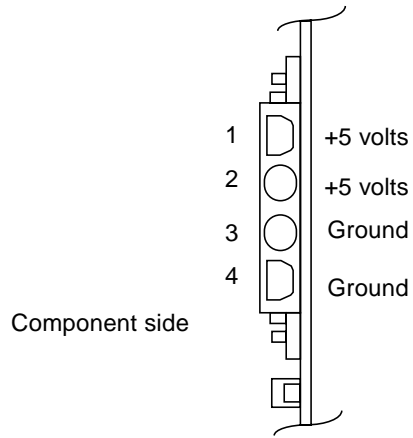

FIGURE 3-37 FTM Card Power Connector
- Coax connectors—receive (RX) and transmit (TX) COAX connectors. The coaxial cables at the rear of the FTM card connect to the TMI card with no cross-over (RX to RX and TX to TX). The coaxial cables at the front of the card connect to the FTM card in the remote StorEdge A7000 with cross-over (RX to TX)
- Power connector—the FTM card requires +5 volts from the system power supply. FIGURE 3-37 shows the details of the power connector